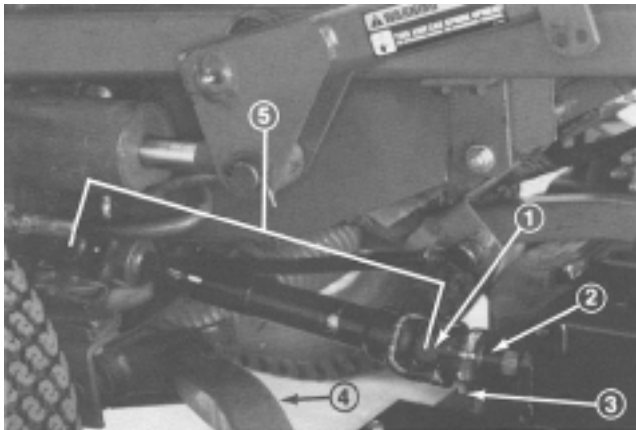

Figure 24
3. Drive roll pin out of yoke and input shaft of gear box (Fig. 24). Also, loosen capscrews and locknuts. Slide yoke off the input shaft. If traction unit will be used without the cutting unit, drive roll pin out of yoke at PTO pivot shaft and remove entire universal shaft from traction unit.
5. Have a helper push down on the right push arm while you remove the capscrews, flatwashers, lockwashers and nuts securing ball joint mount to caster arm on cutting unit (Fig. 24). Now the helper can carefully allow push arm to move upward, which will gradually release the 100 pounds (445 N) of spring load.